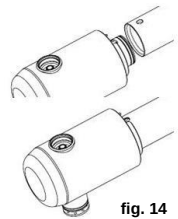

fig. 14
- Push the lock pin at outlet part and push it with light rotary motion into the whipping pipe. The lock pin must catch (fig. 14)!